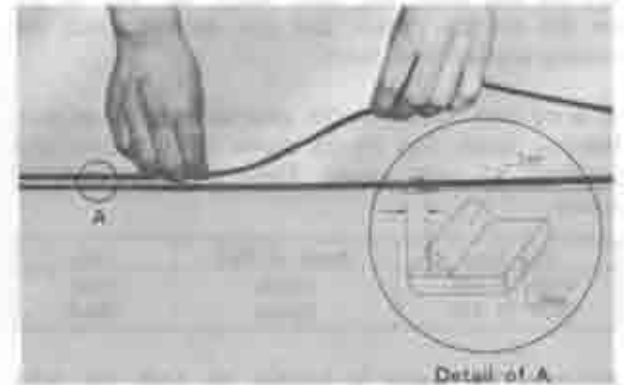

Fig. 14-25 Bonding dam
2. Clean the glass thoroughly and bond the dam with bonding agent parallel to the edge of the glass at a position 7 mm (0.028 in) away from it. Bond the dam in the direction shown in Fig. 14-25.